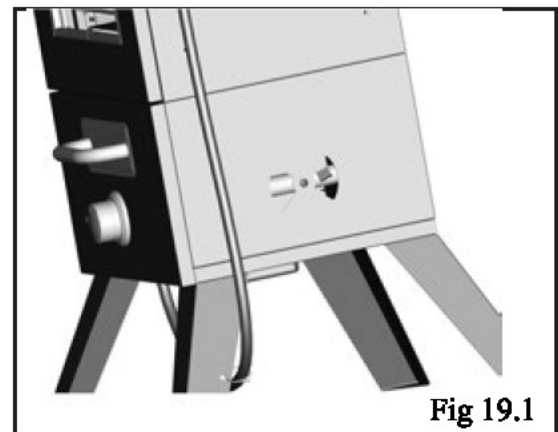

Fig 19.1
4. View the flames through the damper. Fig 19.1